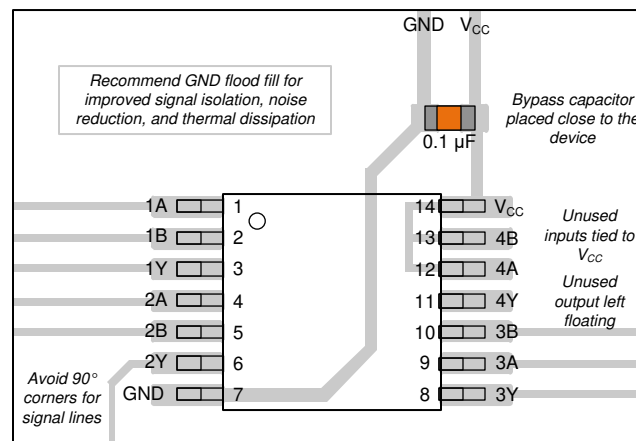

Figure 8-3. Example Layout for the SN74LVC132A
1. Add a decoupling capacitor from V_{CC} to GND. The capacitor needs to be placed physically close to the device and electrically close to both the V_{CC} and GND pins. An example layout is shown in the Figure 8-3.
The power supply can be any voltage between the minimum and maximum supply voltage rating located in the Recommended Operating Conditions. Each V_{CC} terminal should have a bypass capacitor to prevent power disturbance. A 0.1 μF capacitor is recommended for this device. It is acceptable to parallel multiple bypass caps to reject different frequencies of noise. The 0.1 μF and 1 μF capacitors are commonly used in parallel. The bypass capacitor should be installed as close to the power terminal as possible for best results, as shown in Figure 8-3.